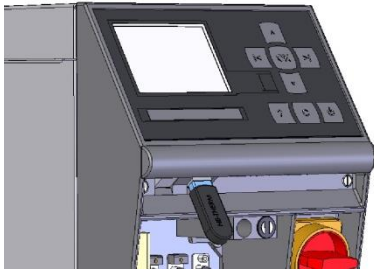

Fig. 73: Connect USB data carrier
2. Connect USB data carrier (Fig. 73).